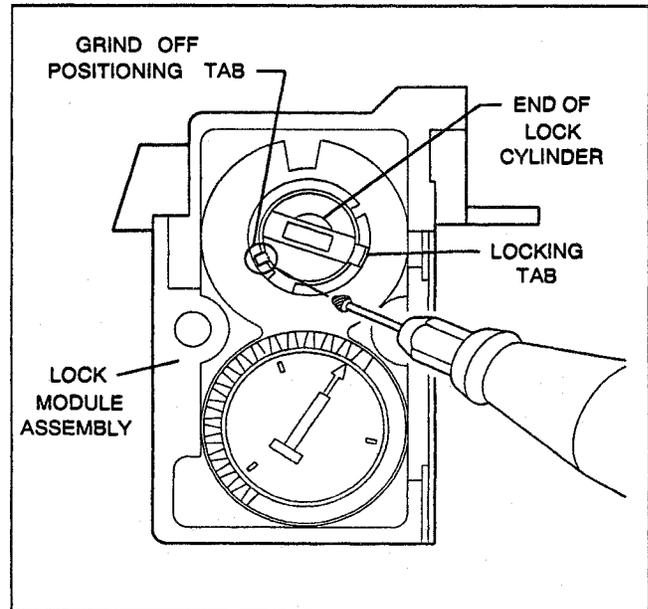

Figure 12 - Grinding Off Lock Cylinder Positioning Tab
17. Remove positioning tab on end of lock cylinder (17) using an 1/8-inch burring tool. (See Figure 12)
- Remove all burrs in and around lock module assembly (15) and lock cylinder (17).
18. From inside lock module assembly (15) push on locking tab and pull lock cylinder (17) from lock module assembly (15) and upper shroud (10).